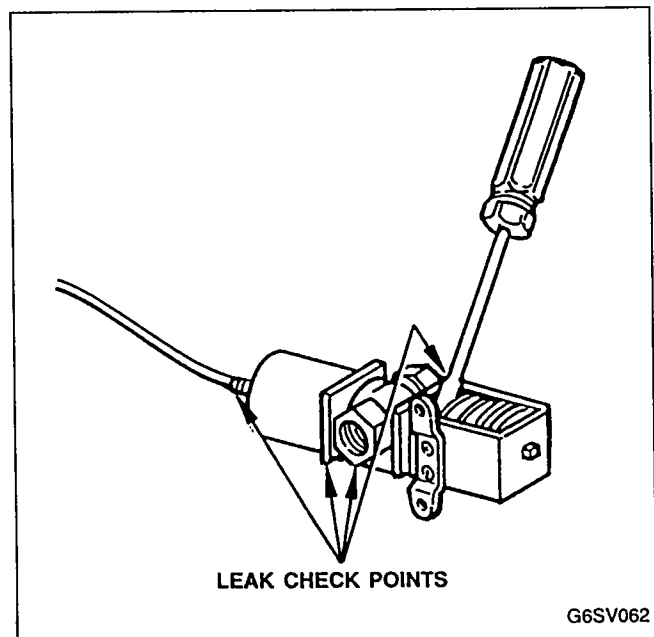

FIGURE 34. WATER REGULATING VALVE
2. Leak check where cap tube meets the bellows housing. See Figure 34.